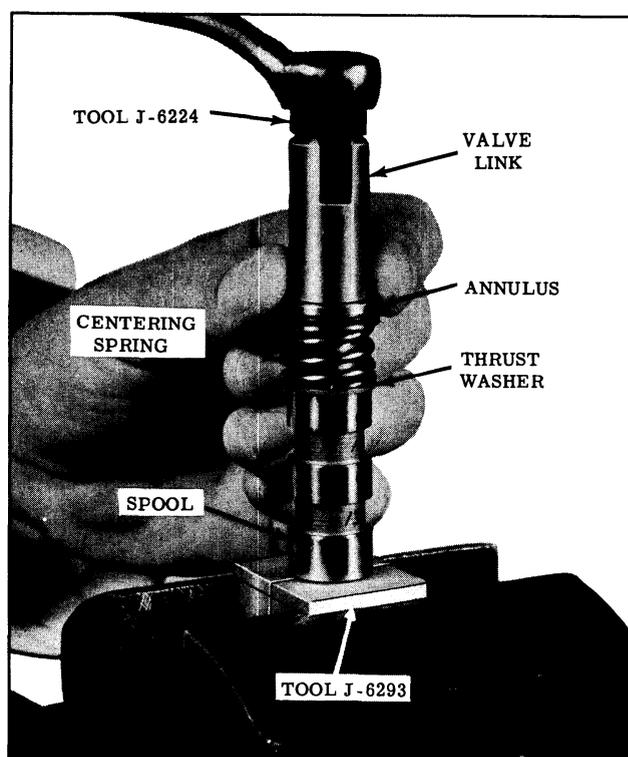

Fig. 5-34 Removing Valve Link
- a. Clamp end of spool valve in Tool J-6293; then, using Tool J-6224 remove the valve link. (See Fig. 5-34)